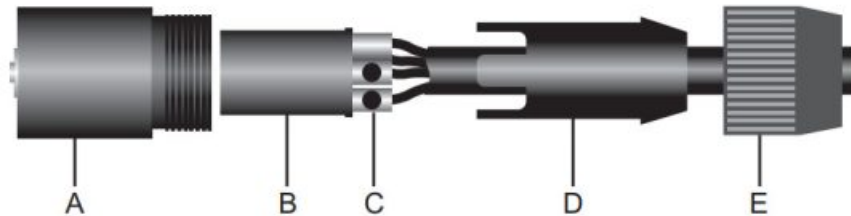

Figure 10
2. Slide the wire tensioner (D) and the Speakon coupler (E) through the cable end. See Figure 10.